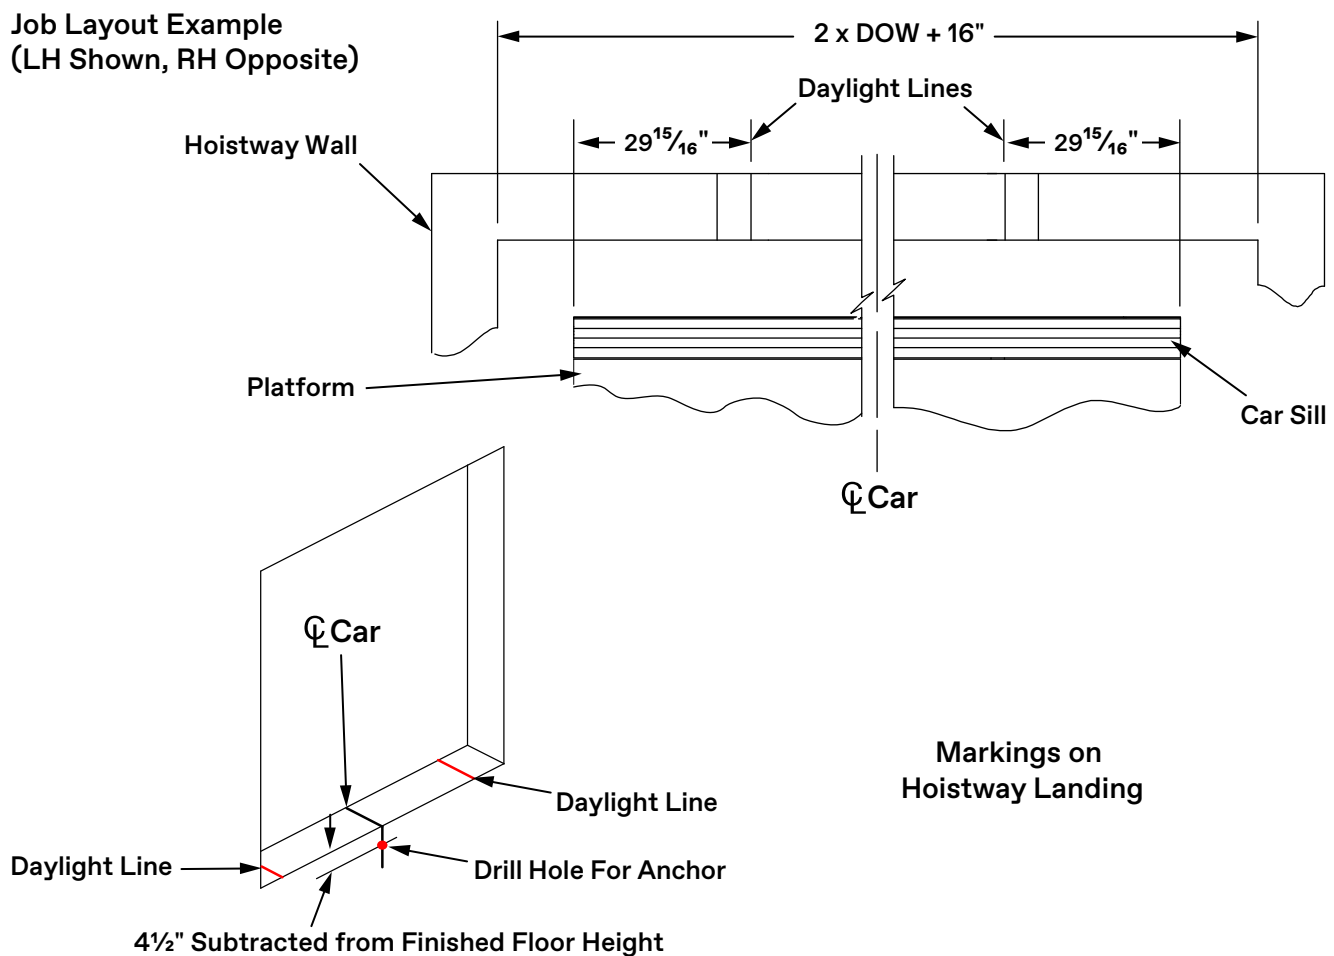

Figure 36 - Sill Installation (1 of 2)
4. Apply tape to car sill, and mark lines on tape. See Figure 36.
6. Subtract the finished floor height from $4\frac{1}{2}$ ". Mark this distance on the landing wall lower than the plumb line drawn in the previous step, drill a hole for a $\frac{1}{2}$ " anchor, and install an anchor. See Figure 36.